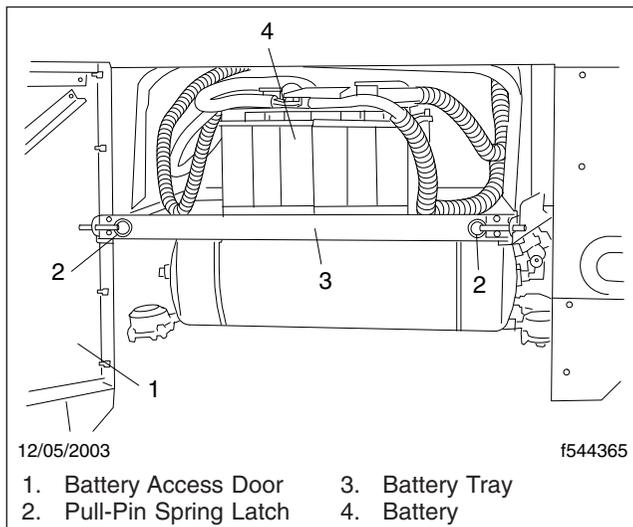

Fig. 14.3, Battery Access
2. Open the battery door to access the batteries. Pull both pull-pin spring latches and slide the battery tray out. See Fig. 14.3.